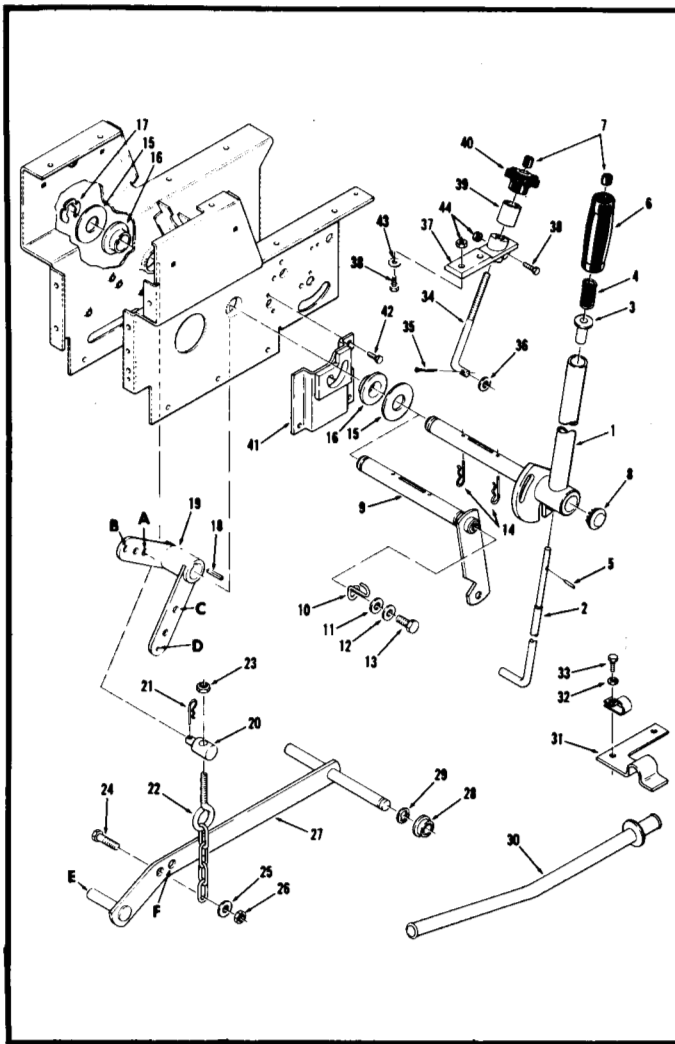
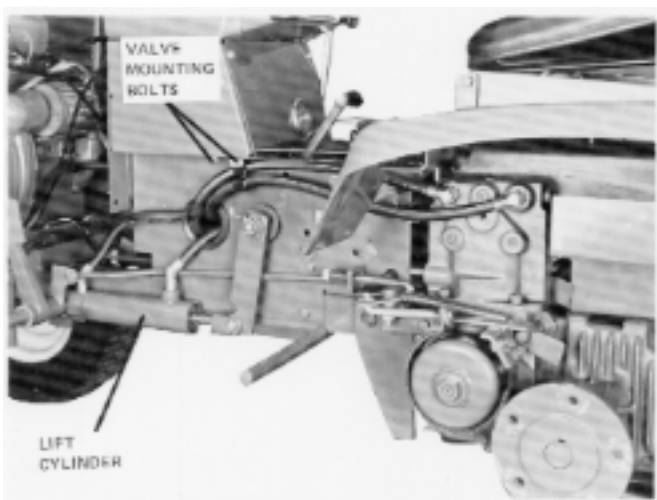

Fig. 7-1 C-Series Lift Linkage
Fig. 7-2 C-Series Hydraulic Lift System
The lift bellcrank, No. 19 in Fig. 7-1, is actuated by the lift lever No. 1, or on C-141, C-161 Automatic models by a hydraulic cylinder. The lift linkage, on certain attachments, connects directly to the bellcrank. Other attachments connect their lift linkage to the lift bar No. 27. Use the following chart for correct linkage locations:
Refer to Fig. 7-1 during the following procedure.
Refer to Fig. 7-1 and Fig. 7-2 during the following procedure.
1. Remove left side panel exposing cylinder and four hydraulic hose connections. See Fig. 7-2. Mark two rear hoses for identification during reassembly.
6. Remove two mounting bolts holding valve bracket to hoodstand. See Fig. 7-2.
3. Remove ammeter mounting panel and disconnect two (2) connections from ammeter.
5. Remove two mounting bolts holding valve bracket to frame. See Fig. 7-2.